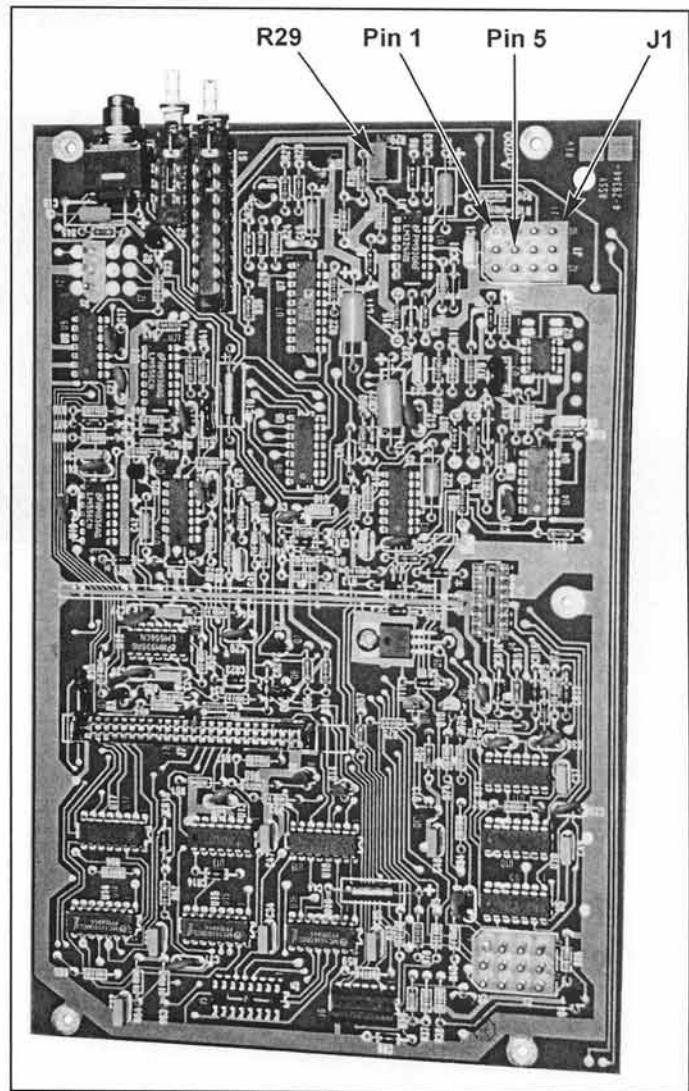

Figure 4-3. Logic PCB Assembly A2
1. Unplug the power cord. On Logic PCB Assembly A2, remove the plug from J1 (see Figure 4-3). Rotate variable resistor R29 fully CW.